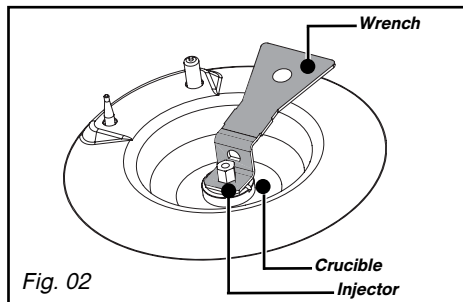

Fig. 02
– Using the wrench provided, unscrew the injectors located under each crucible and remove them (Fig. 02).